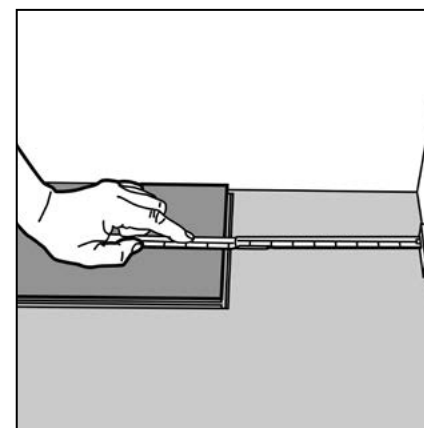
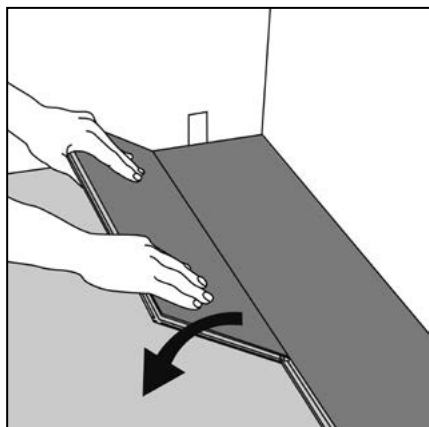

Figure 3 Last plank, first row
Figure 4 First Plank, second row
- ▶ Measure the length of this plank/tile to fit (Fig 3), cut to correct length and turn back so the overhanging male profile on the short edge is now
- ▶ Start this new row with the leftover piece from the last row (min length 350mm – Fig 3). Insert the plank/tile at an angle against the plank/tile in the previous row (Fig 4). Press forward and fold down at the same time.